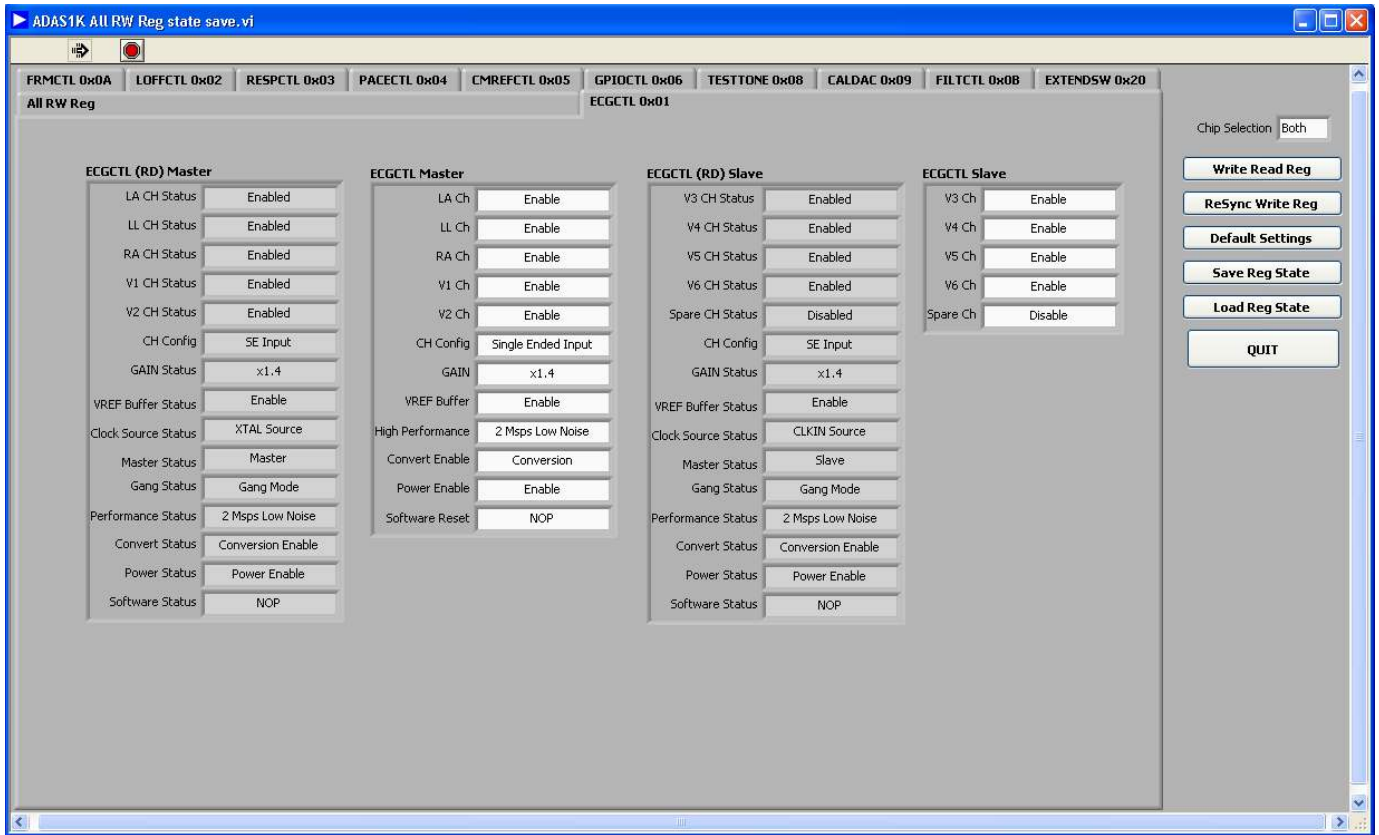

Figure 15. ECG Control Register
Within the tabs of this window all the individual control registers can be accessed. The ECG control register is shown in Figure 15, giving access to master and slave control. Note that for certain conditions, the slave device must match the master device configuration. As a result, the software locks out some of the slave control to ensure that the settings of the master and slave will always match (for example, gain setting, high performance mode, clock source, and so on).
1. Configure the ADAS1000 for electrode mode in the ECGCTL register (see Figure 15) to be able to see these signals correctly. If the ADAS1000 is configured for vector/lead mode, then the test tone signals are subtracted from each other. Also, in the CMREFCTL register, none of the electrodes should be configured to contribute to the common-mode signal.